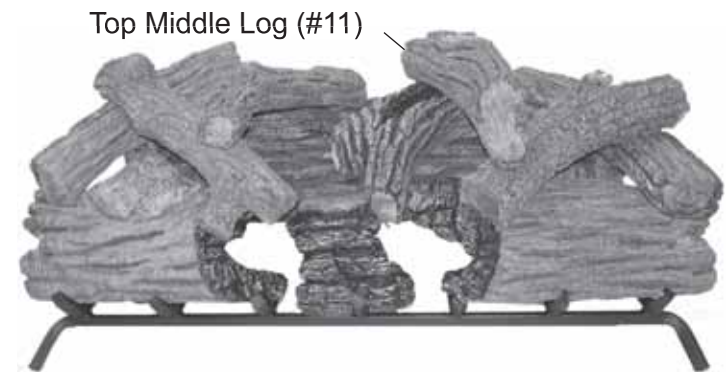

Figure 46 - Installing Top Middle Log (#11)
12. Install top middle log #11. *See Figure 46.*